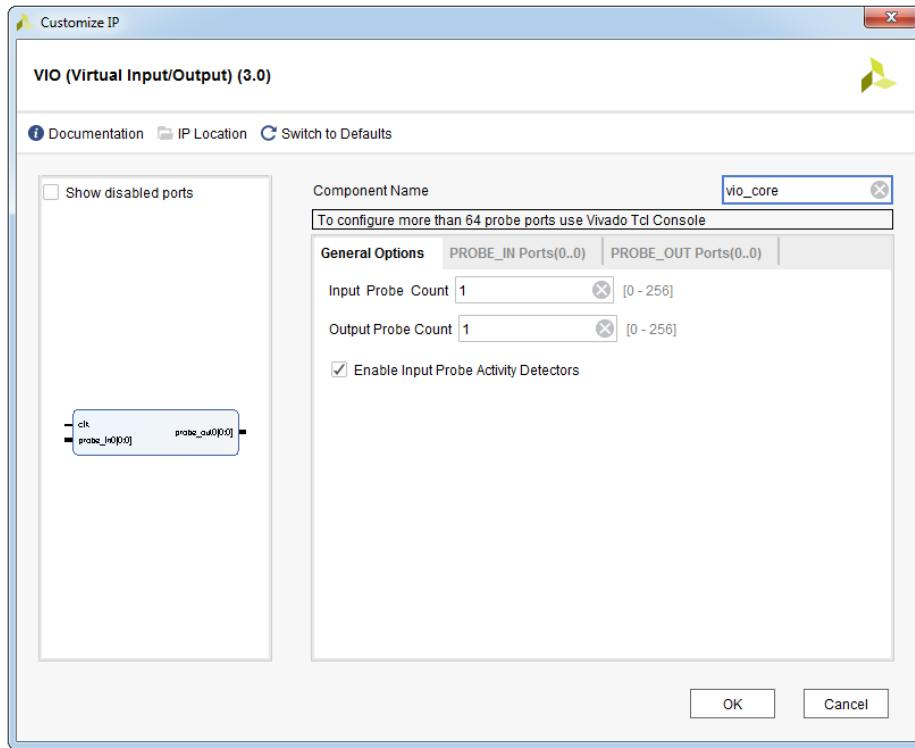

Figure 11.4: VIO core configuration window - General Options
The window that will be opened is used to set up the general VIO core parameters, see Figure 11.4.
5. In the **General Options** tab, leave **Input Probe Count** to be **1** and **Output Probe Count** also to be **1**, because we will need one input probe for *pwm_out* signal and one output probe for *sw0* signal, see Figure 11.4.